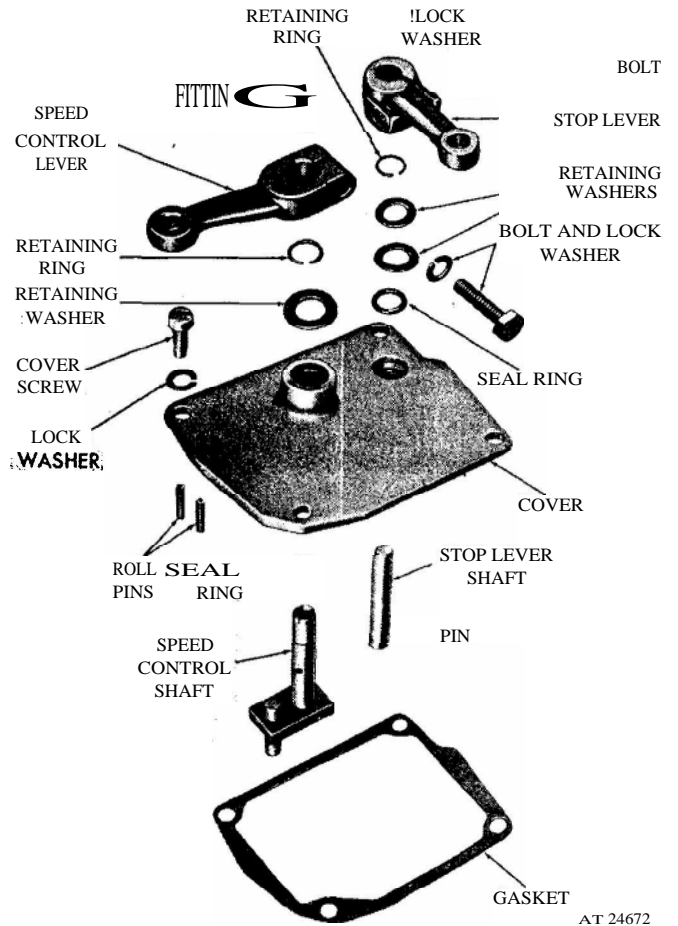

Figure 2. Governor cover details and relative location of parts.
1. Remove the return spring and clip from single lever cover only, then loosen the governor speed control lever retaining bolt and lift the lever from the speed control shaft (fig. 2).
- I. Place a new seal ring in the counterbore of the cover (fig. 2).